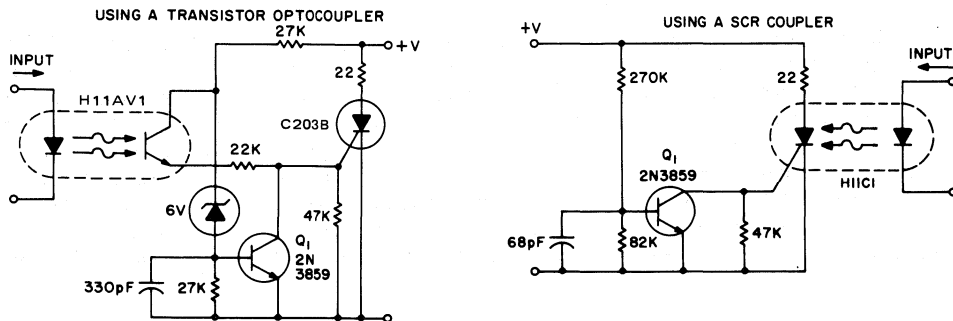

Fig. 123 - Normally open, two terminal, zero voltage switching half wave contact circuits.
**Isolation and Zero Voltage Switching Logic** — Figure 123 presents two simple circuits providing zero voltage switching. These circuits can be used with full wave bridges or in antiparallel to provide full wave control and are normally used to trigger power thyristors. If an input signal is present during the time the ac voltage is between 0 to 7V, the SCR will turn-on. But, if the ac voltage has risen above this range and the input signal is then applied, the transistor, Q1, will be biased to the “on” state and will hold the SCR and, consequently, the relay “off” until the next zero crossing.